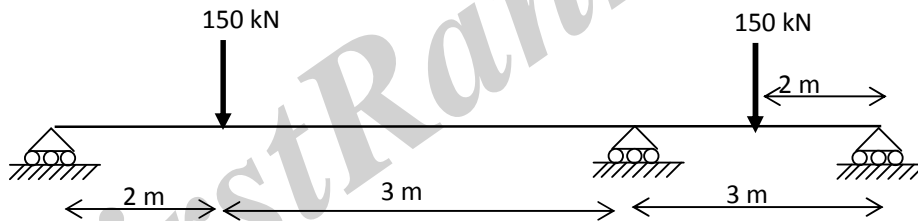

Fig.4
7. Analyse the beam shown in the Fig.4, using flexibility method.